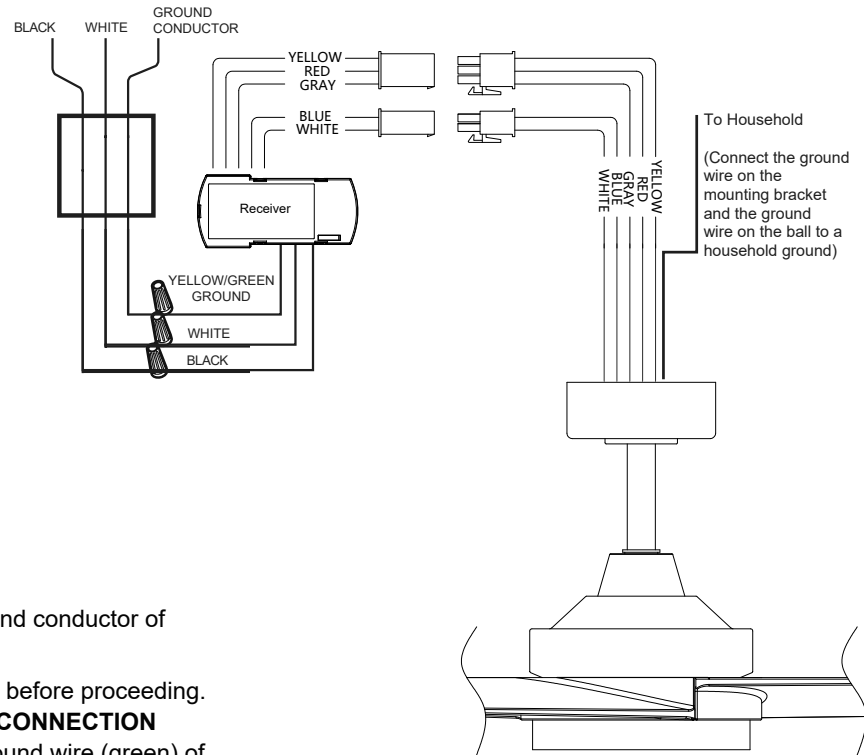

Fig. 14
Step 1. The ground wire (green) of the ceiling mounting bracket and the ground wire (green) of the ball connects to the ground conductor of the ceiling outlet box (Fig. 14).